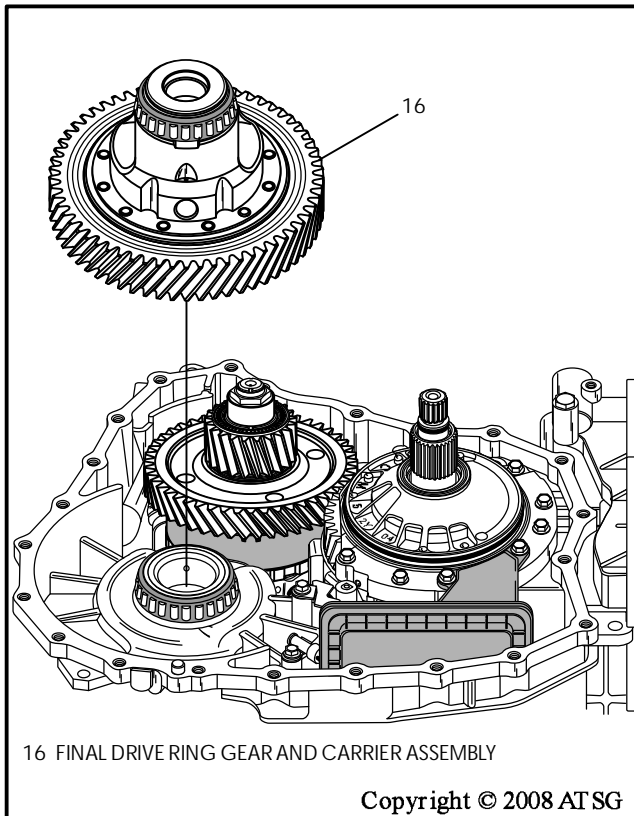

Figure 226
34. Install the pre-assembled final drive assembly, as shown in Figure 226.